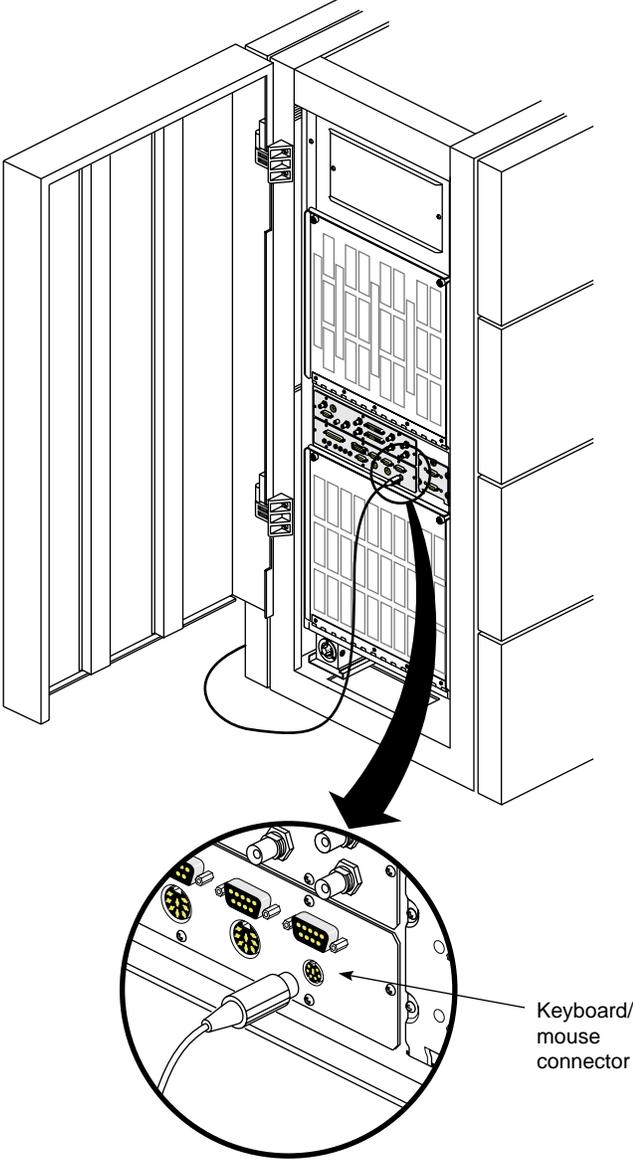

Figure 3-5 Keyboard Connection
2. Attach one end of the keyboard cable to the remaining keyboard receptacle. Attach the other end of the keyboard cable to the keyboard connector on the main I/O panel (see Figure 3-5).